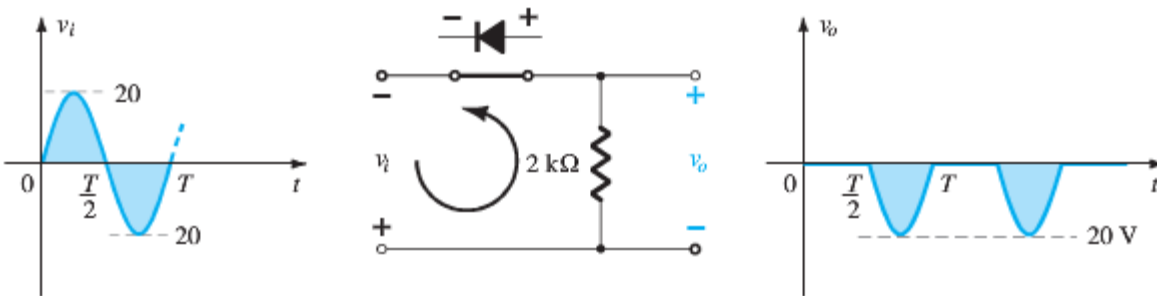

FIG. 2.50
- a. In this situation the diode will conduct during the negative part of the input as shown in Fig. 2.50, and v_o will appear as shown in the same figure. For the full period, the dc level is
Effect of V_K on output of Fig. 2.50.